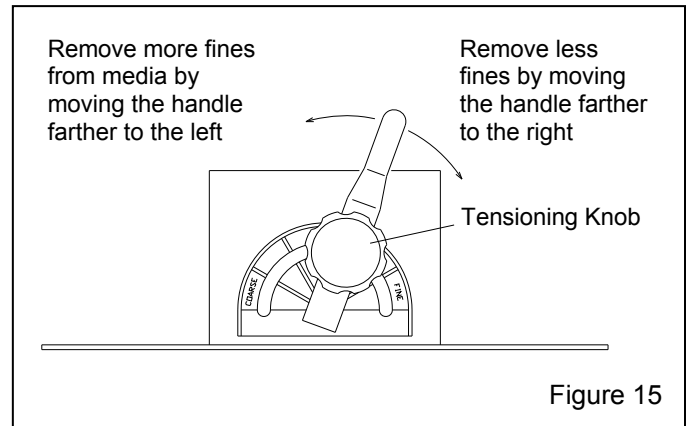

Figure 15
5.4.1 The vortex cylinder is located atop the reclaimer where the flex hose connects. Adjustments are made by loosening the handle's tensioning knob and moving the handle to achieve the correct setting. When the correct setting is established, tighten the locking knob to prevent movement. Start with the lever slightly to the right (about one o'clock as shown in Figure 15) of the vertical position.